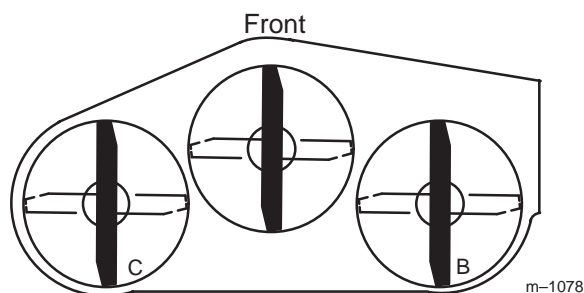
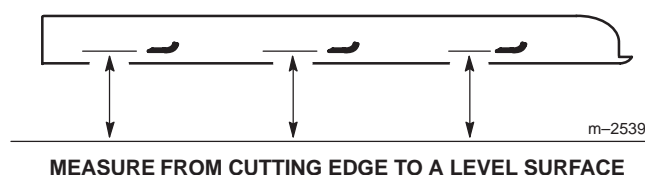

Figure 65
Figure 66
1. Position the **right** blade front-to-rear (Fig. 65).
2. Measure the right blade at the **B** location (Fig. 65), from a level surface to the cutting edge of the blade tips (Fig. 66).
- Position the **left** blade front-to-rear (Fig. 65).
- Measure the left blade at the **C** location (Fig. 65), from a level surface to the cutting edge of the blade tips (Fig. 66).